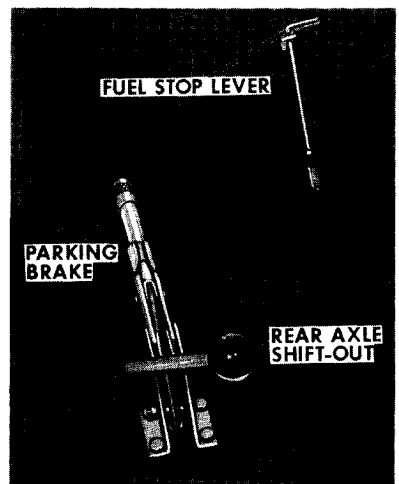

Figure 24A
**FUEL STOP LEVER** - Figure 24A. Pull lever up and release accelerator pedal to stop engine.
**REAR AXLE SHIFT-OUT** - Figure 24A.
**PARKING BRAKE** - Figure 24A. Pull handle up to engage the parking brake when stopped on an incline or when the operator leaves the Loader. The parking brake tension can be adjusted by turning the knurled portion of the brake handle when the brake is in the released position. Turn the knurled portion of the handle toward the front of the Loader to increase the tension. Turn rearward to decrease tension.